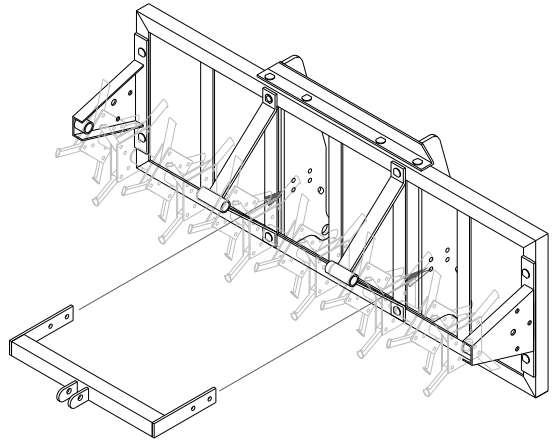

FIG. 8
8. Slip lower cylinder mount between aerator drums and angle iron frame and around the outside of the pivot arms on main pivot frame that is bolted to the aerator frame. Align holes in arms of main pivot with holes in arms of lower cylinder mount and secure with $\frac{3}{8}$ " x 1" bolts and whizlock nuts. Tighten these bolts also. (Note: there are two bolts patterns on the main pivot frame pivot arms, to determine which set of holes to use measure from the ground up to top of crosstube if your measurement is at or near 19" use hole pattern furthest away from tractor (upper set of holes in transport position). Use the hole-pattern closer to the tractor if that same measurement is at or near 17"(lower set of holes in transport position). **FIG. 8**